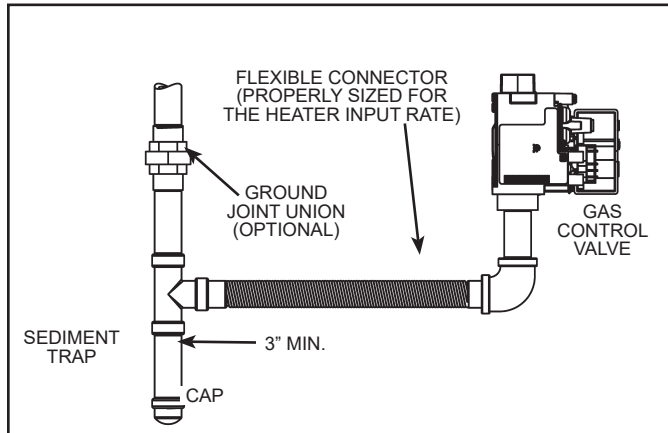
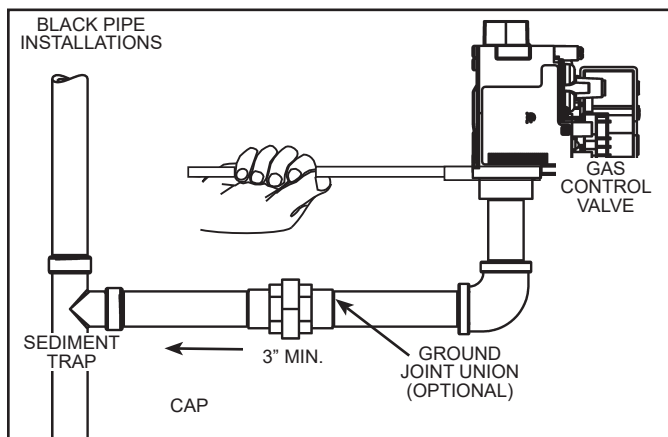

Figure 41. Flexible Pipe to Gas Valve
Figure 42. Black Pipe to Gas Valve
Follow the instructions below and see *Figure 41* and *Figure 42* for gas piping installation.
4. Install a ground union between the water heater and the manual shut-off valve. This is to allow easy servicing. See **Figure 42** (page 40).